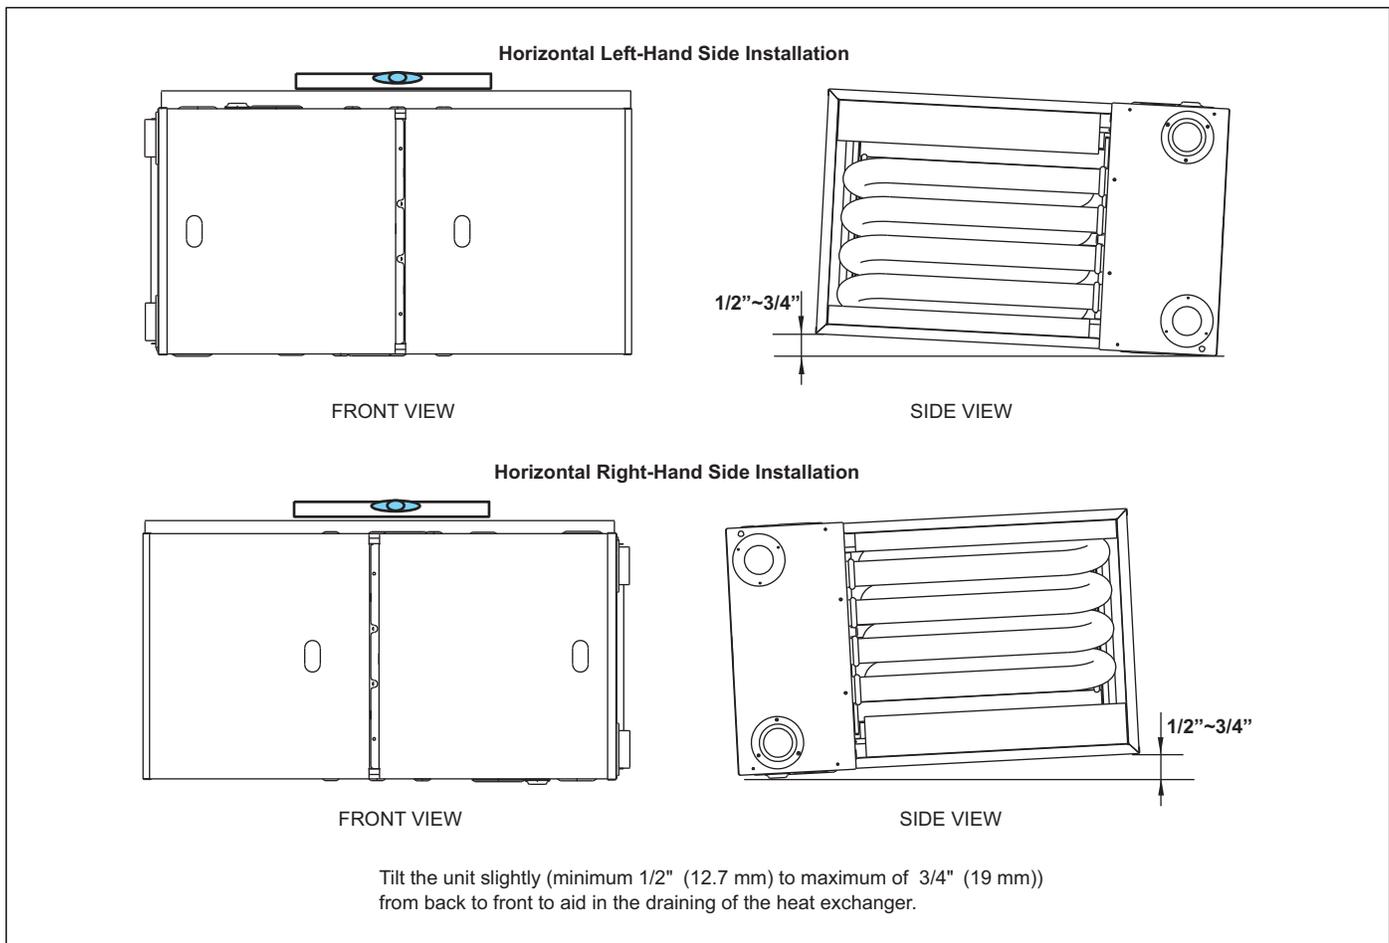

Figure 9 Horizontal application-setting equipment
The furnace can be installed horizontally in an attic or crawl space on bottom or either the left-hand (LH) or right-hand (RH) side (See Figure 9). The furnace can be hung from floor joists, rafters or trusses or installed on a non-combustible platform, blocks, bricks or pad.
Leveling ensures proper condensate drainage from the heat exchanger and induced draft blower. For proper flue pipe drainage, the furnace must be level lengthwise from end to end. The furnace should also have a slight tilt with the access doors downhill ((minimum 1/2"(12.7 mm) to maximum of 3/4"(19 mm)) from the back panel. The slight tilt allows the heat exchanger condensate, generated in the recuperator coil, to flow forward to the recuperator coil front cover. Refer to Figure 9.